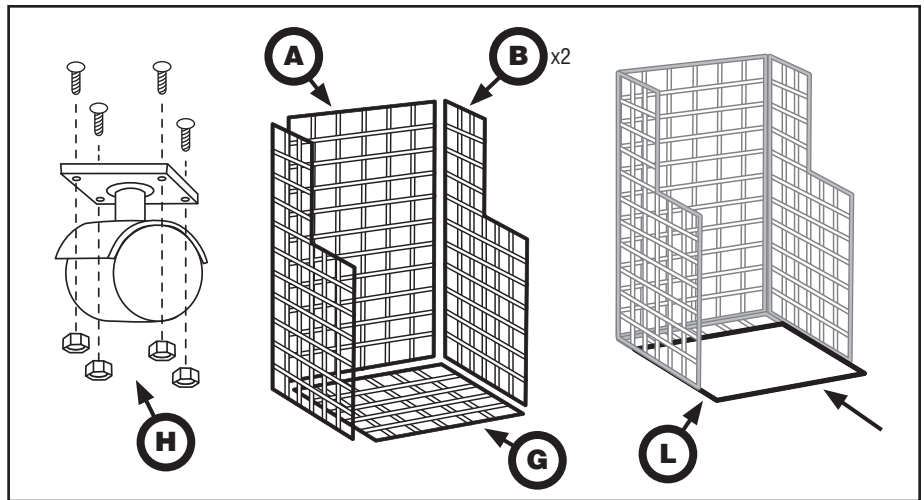

Figure 1
- 2** Using small plastic clips (**J**), attach one large grid (**A**) to back of base grid as in *Figure 1*.
- 3** Attach two L-shaped side grids (**B**) to base and back as in *Figure 1*.
- 4** Place dust protector bottom cover (**L**) on base grid as in *Figure 1*.